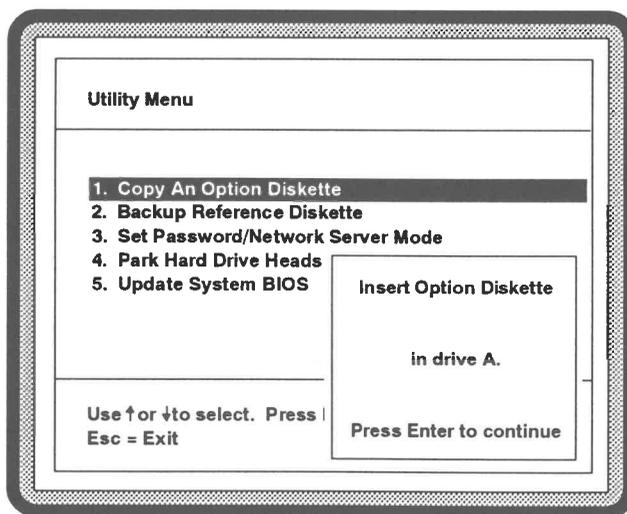

Figure 4-10 Copy an Option Diskette Program Sequence
4. From the **Utilities Menu**, select the **Copy an Option Diskette** option and press Enter (see Figure 4-10).
NOTE: Figure 4-10 is a composite of the windows you will see while carrying out this procedure. It is intended to show the program sequence.